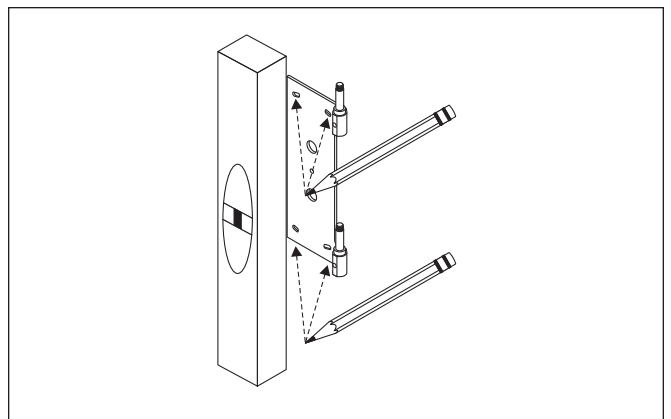

Figure 4. Step 4
- 4 Using a level, square the wall bracket and hold it flush against the wall with the wall bracket's center hole over the center point you just marked. The cylindrical hinges on the wall bracket should point away from the wall and the hinge pins should point upwards towards the ceiling. Mark four points (two each at the top and bottom of the bracket) inside of the wall bracket's arc shaped cut outs (see figure 4).